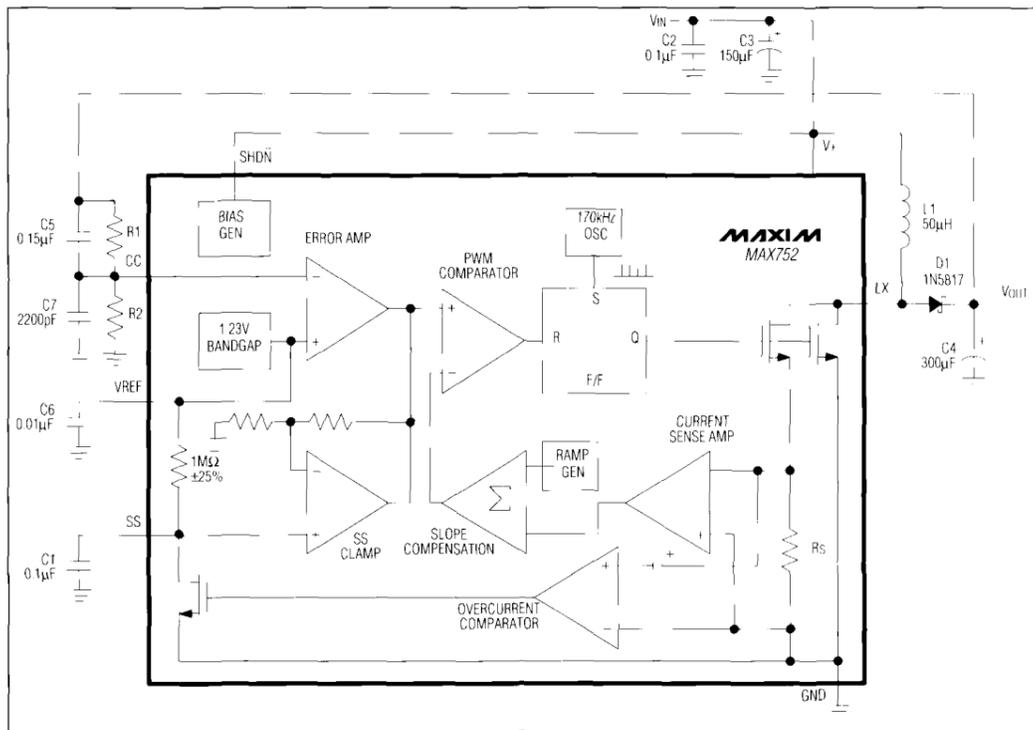

Figure 1b. MAX752 Detailed Block Diagram with External Components. Optimized for 12V Output.
The output voltage for the MAX752 is set by two resistors, R1 and R2 (Figures 1b and 2b), which form a voltage divider between the output and the Compensation Capacitor (CC) pin. The regulator adjusts the output so the voltage at the junction of R1 and R2 is equal to the +1.23V bandgap reference voltage. Since CC is a CMOS input, its input impedance is nearly an open circuit, which will not load the voltage divider. R2 can be any value between 10kΩ to 30kΩ. R1 is given by the formula: